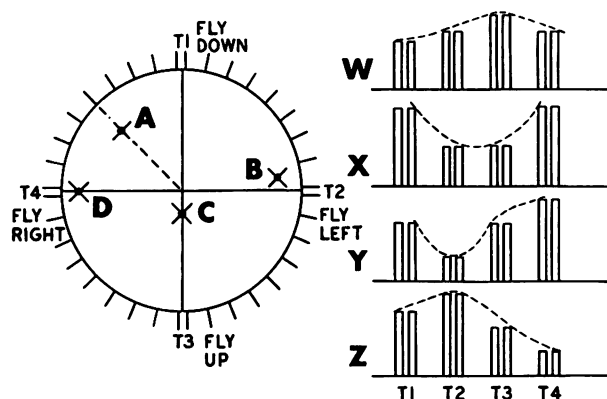

Figure 3F.
● Figure 3F shown four missiles flying in different portions of the guidance beam. It also shows the set of dual pulse signals that each missile receives during a single revolution of the beam center.
31. Which set of dual pulse signals shown in figure 3F is received by missile C?
32. Which set of dual pulse signals shown in figure 3F is received by missile D?
33. Which of the missiles shown in figure 3F will NOT roll as it returns to the center of the scan axis? (Remember that up-down error signals are converted into pitch signals and left-right error signals are converted into yaw error signals.)